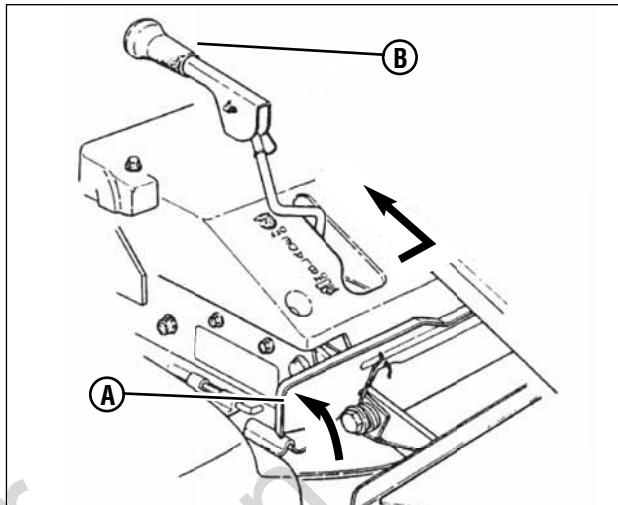

Figure 15: Stopping the mower blade
1. Stop the mower blade by releasing the blade pedals (A, **Figure 15**) or moving the blade lever (B) rearward to the "OFF" position.